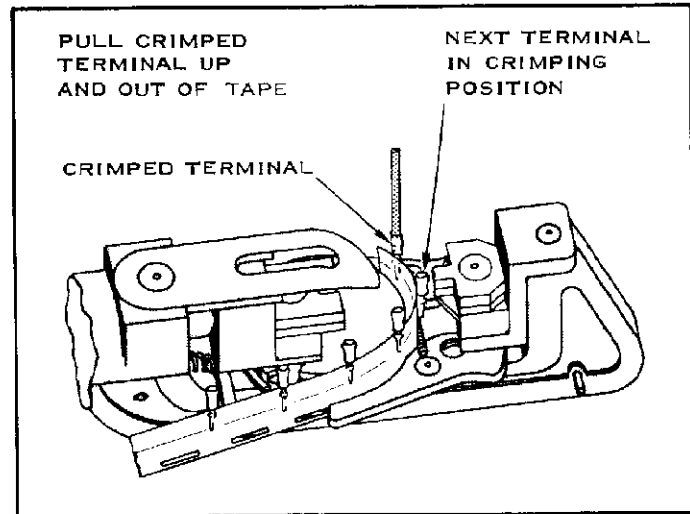

FIGURE 6
8. Press and release the Trigger. The Taper Pin will be crimped and moved into position for removal from the tape. The next Taper Pin will be moved into crimping position. Figure 6.